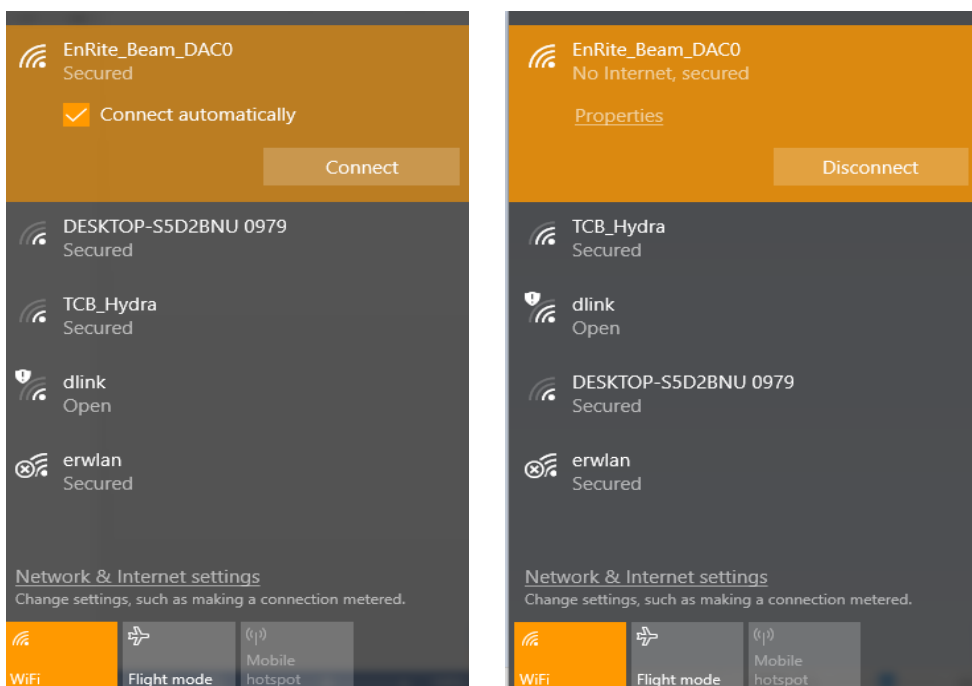

Figure 3-2
- 4 On PC/laptop, search for Wi-Fi networks and connect to the “EnRite_Beam_DAC0” (Wi-Fi of Gateway). The password is *adminadmin* (Refer to figure 3-2)